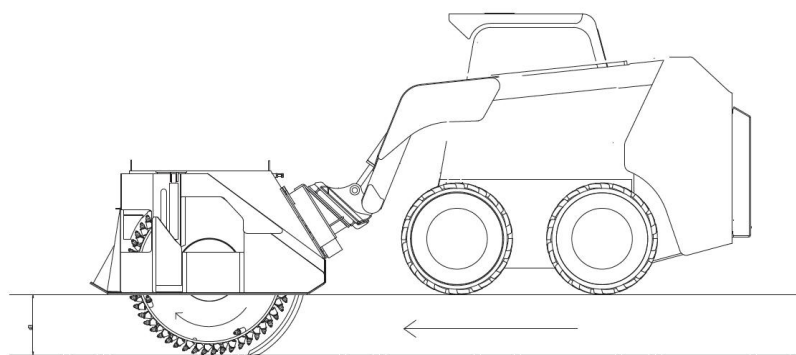

Figure 2 Schematic diagram of work
- 2) **When moving forward, both sides of the adjustment part and the road surface to maintain the level (such as Figure 2).**